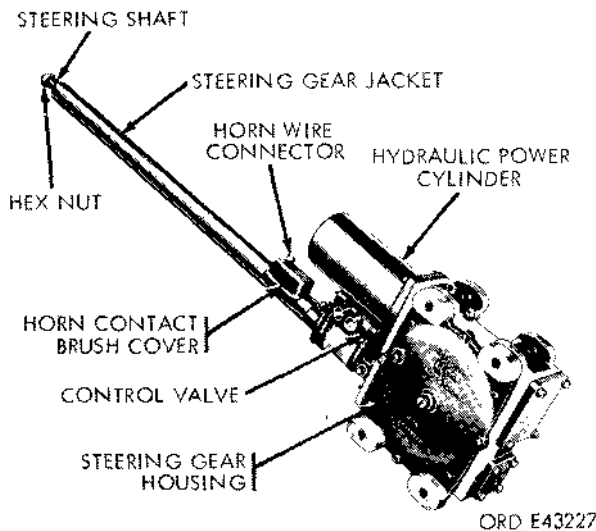

Figure 2-205. Steering gear unit.
(1) Remove the horn button assembly (para 2-156).
(2) Remove the hexagon nut (fig. 2-205) securing the steering wheel to the upper end of the steering shaft.